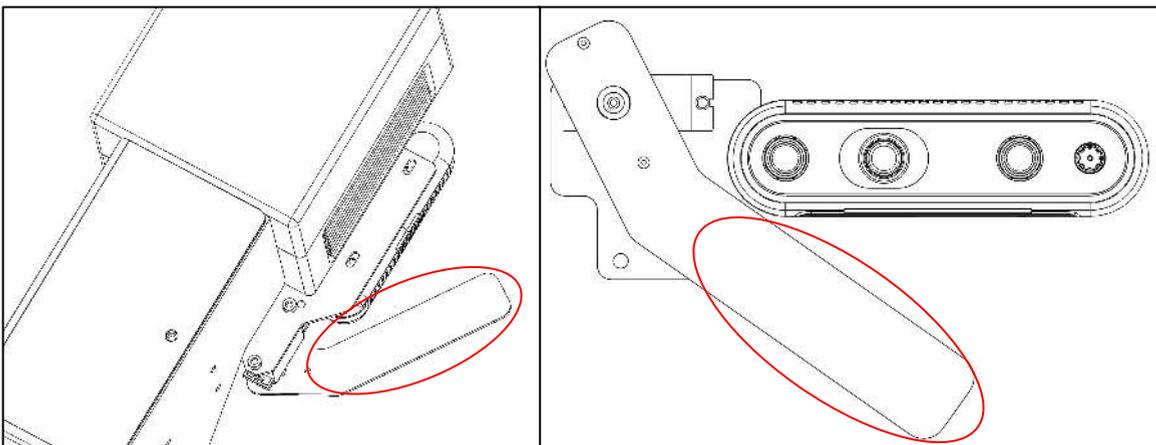

Fig. 31
9. Test both values and adjust the shutter accordingly(see Fig. 31).